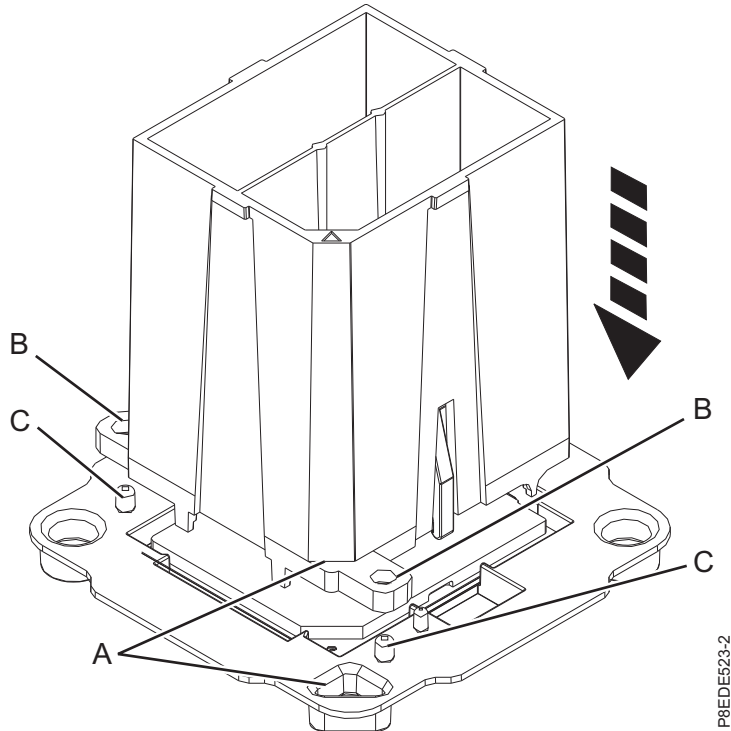
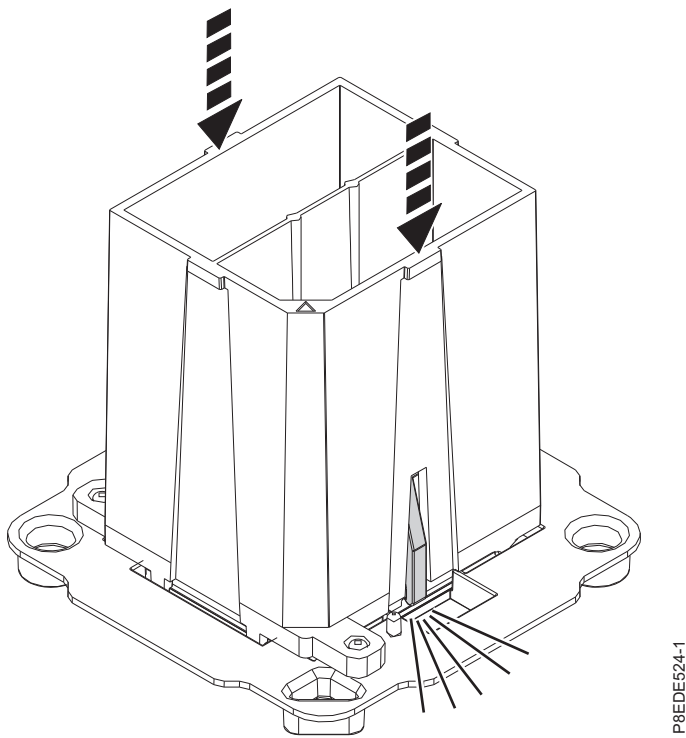

Figure 77. Preparing for system processor module installation
Figure 78. Locking the system processor module into the tool
- a. Remove the processor module from the shipping tray. Using the supplied removal tool (part number 00E8483), align the beveled corner (**A**) of the tool over the beveled corner of the module, as shown in Figure 77 on page 79.
- b. Lower the tool over the system processor module by ensuring that the two guide pins (**C**) are inserted into the alignment holes (**B**) on each side of the tool, as shown in Figure 77 on page 79. Then, push down on the tool to lock the system processor module into the tool, as shown in Figure 78 on page 79. Do not press the blue release tabs until directed to do so later.